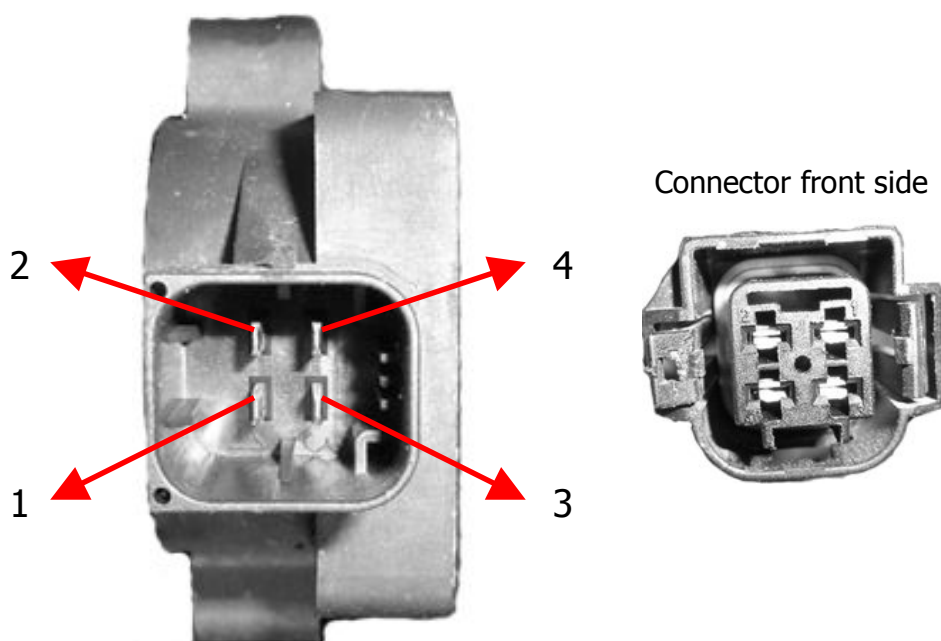

Fig.1
- Connect the black-red wire to constant +12V (30)
- Disconnect connector A (4-pole) from potentiometer (fig.1).